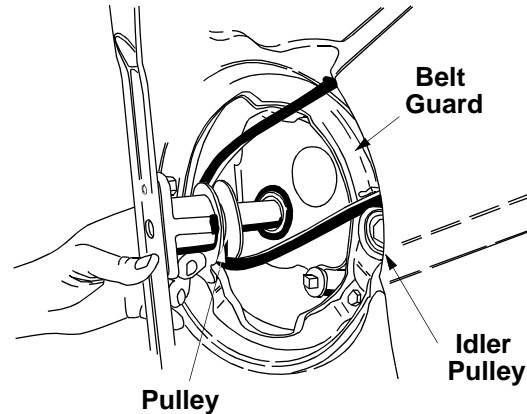

Figure 19
11. Release the idler pulley so that it falls down into position. Slide the belt in between the idler pulley and the belt cover on the idler pulley bracket. See Figure 19.